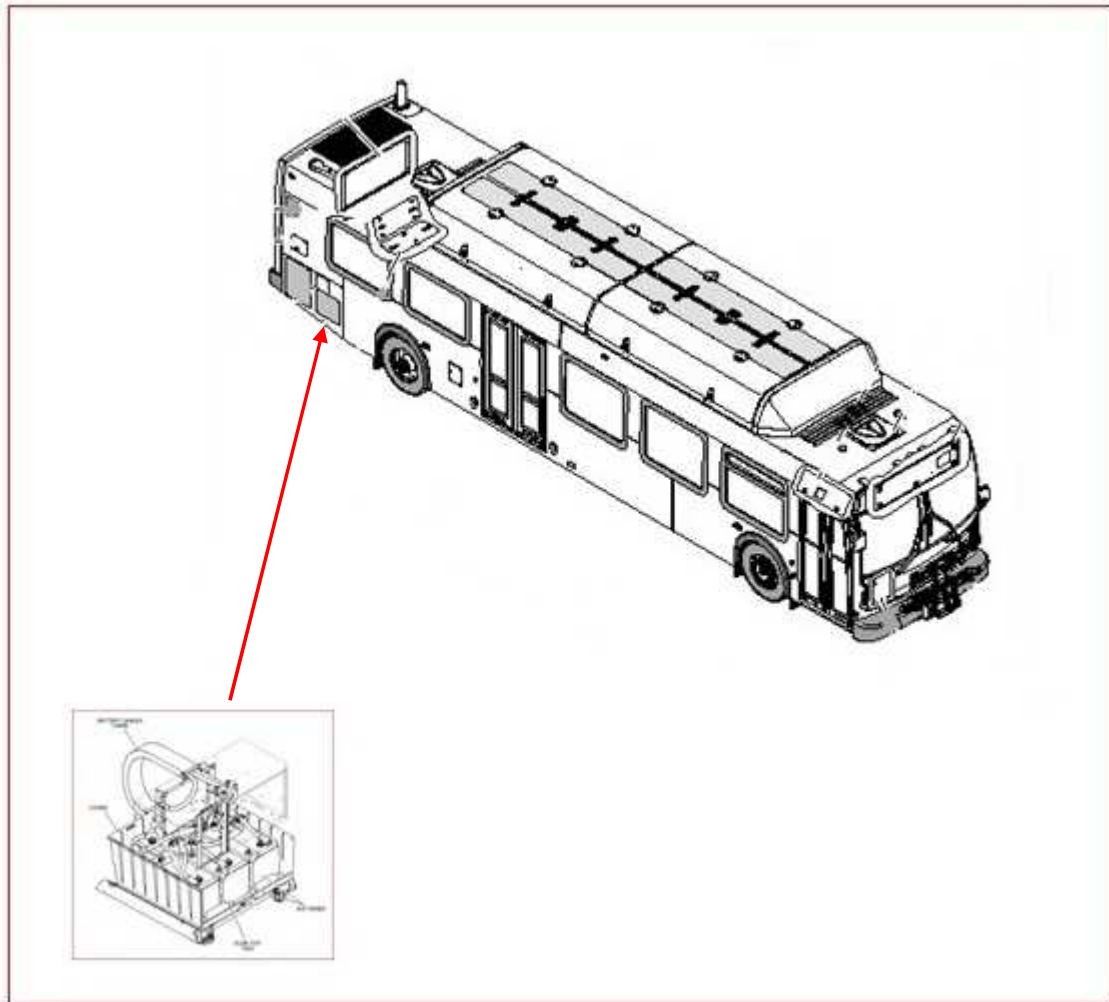

Figure 1: Battery Tray Location.
2. Gain access to the battery tray via the battery access door which is located behind the rear wheel on the curbside and allows access to the batteries, primary fuel filter, battery disconnect switch and fuses. It is held open by two gas cylinder assemblies. Refer to Figure 1.